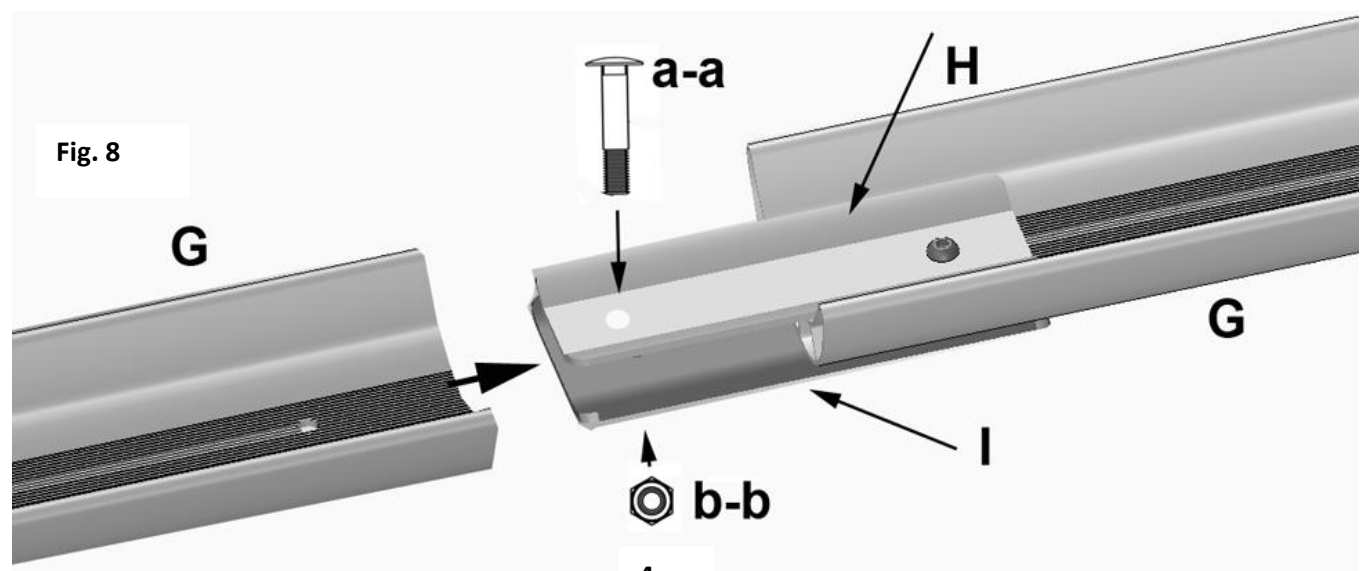

Fig. 8
**Per Fig. 8:** Slide the other wheel tray (half) G between upper plate H and lower plate I. Insert carriage bolt a-a through the holes of parts H, G, & I and install washer & nut onto bolt. Tighten with wrench. Repeat all above steps for the second wheel tray.
**Per Fig. 8:** Trays should be aligned together tightly and assembled. Tighten nuts b-b securely